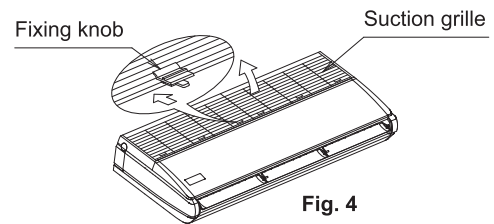

Fig. 4
- Slide the suction grille fixing knobs (35, 50 class: 2 places for each, 60~140 class: 3 places for each) toward backward direction (as shown by an arrow) to open the suction grille widely. (Refer to Fig. 4)